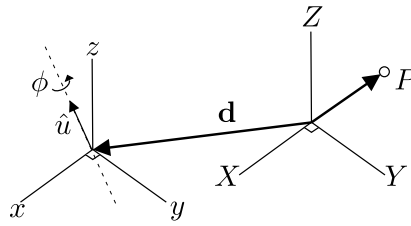

Figure 1: Schematic for Problem 2.
2. Derive the homogeneous transformation matrix that rotates a point P about an axis located \mathbf{d} from the origin as illustrated in Figure 1.